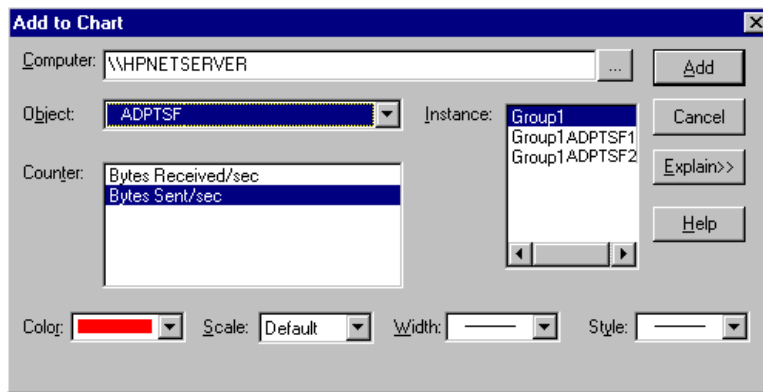

Figure 8-19. Add to Chart Window
- 2 In the Performance Monitor, click the **Add** counter button to enter the Add to Chart window, shown in Figure 8-19.